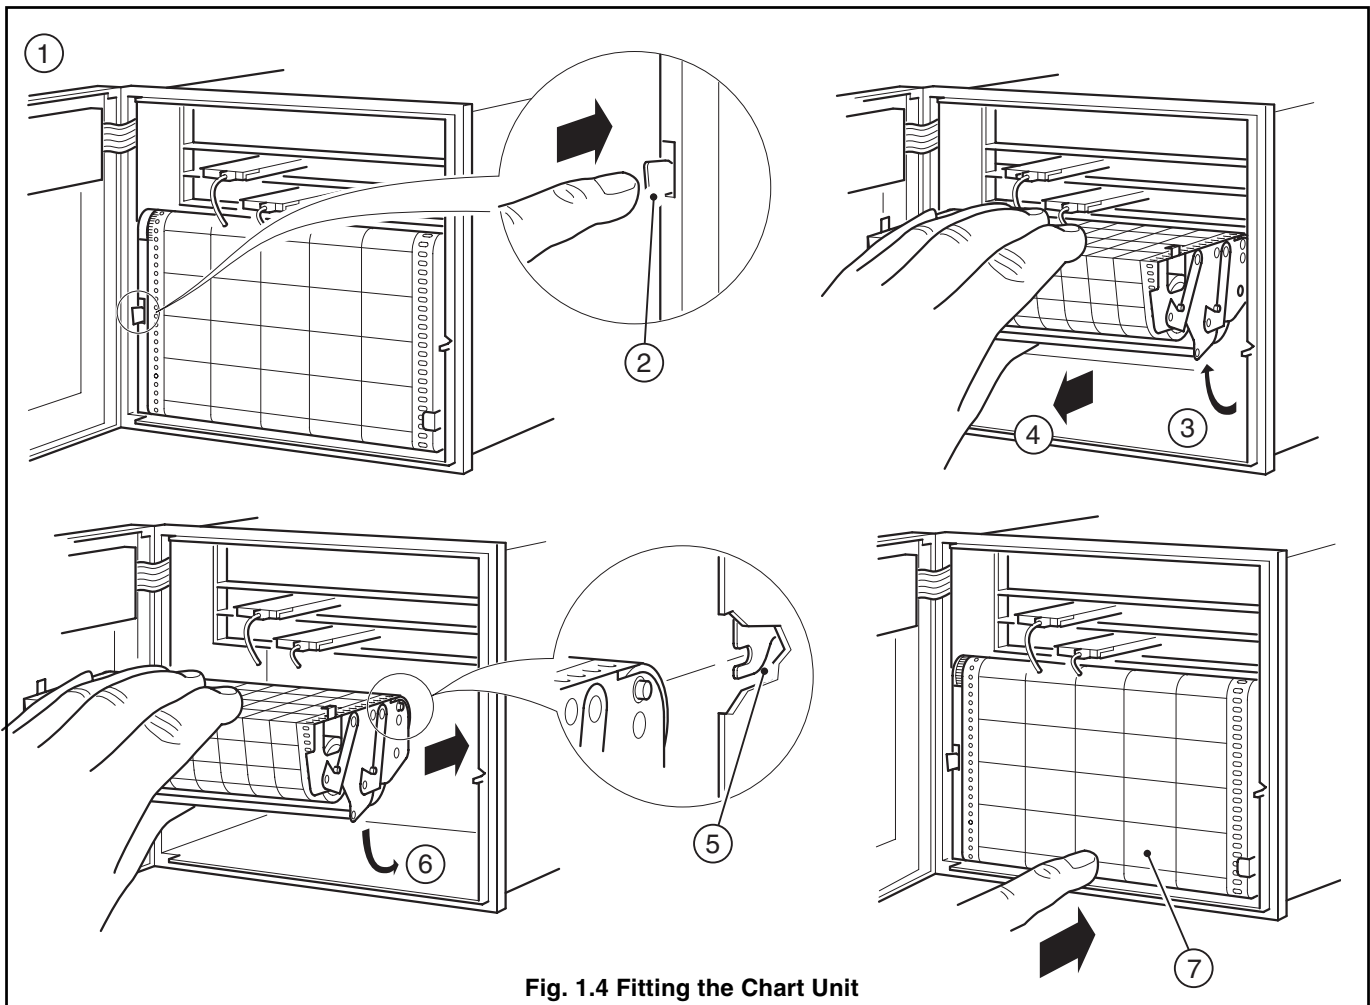

Fig. 1.4 Fitting the Chart Unit
1.5.1 Removing/Refitting a Chart Unit – Fig. 1.4
Operate the  key to lift the pen(s). Referring to Fig. 1.4: